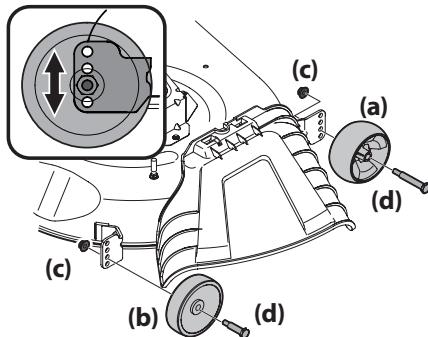

Figure 12
- Remove the front (a) and rear (b) deck wheels by removing the flange lock nuts (c) and shoulder bolts (d) that secure them to the deck. See Figure 12.